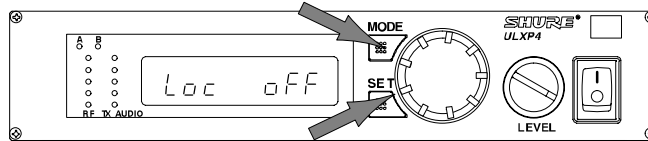

FIGURE 43
1. Hold down the receiver SET button and press the MODE button three times. "Loc" will appear on the receiver display. See Figure 43.